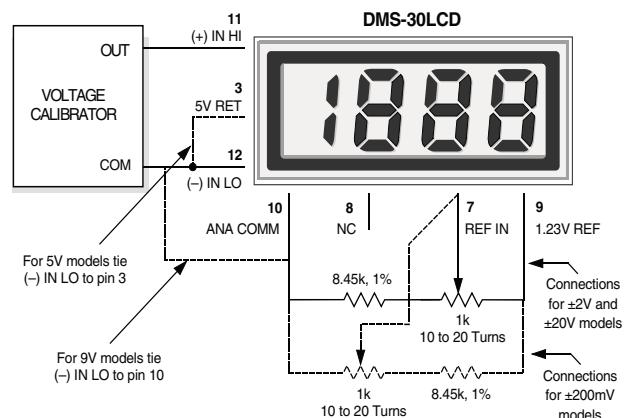

Figure 9. External Gain Adjustment
7. **Gain Adjust:** There is a gain-adjust potentiometer on the back of each meter. It has approximately  $\pm 50$  counts ( $\pm 2.5\%$ ) of adjustment range. Since these devices essentially have no zero/offset errors, a gain adjustment is effectively an overall accuracy adjustment. Though they may be performed at any point (except zero), accuracy adjustments are most effective when performed with higher level input signals. Refer to Figure 9 for applications requiring greater ( $\pm 10\%$ ) gain adjustments.
7. **External Gain Adjustment:** Connect REFERENCE OUT (pin 8) to REFERENCE IN (pin 7) for normal, factory calibrated, operation. Use the +1.23V REFERENCE OUT (pin 9) for applications needing external gain adjustment. Figure 9 shows the wiring configuration for each model. Calibration is performed with a precise, near-full-scale, input voltage.